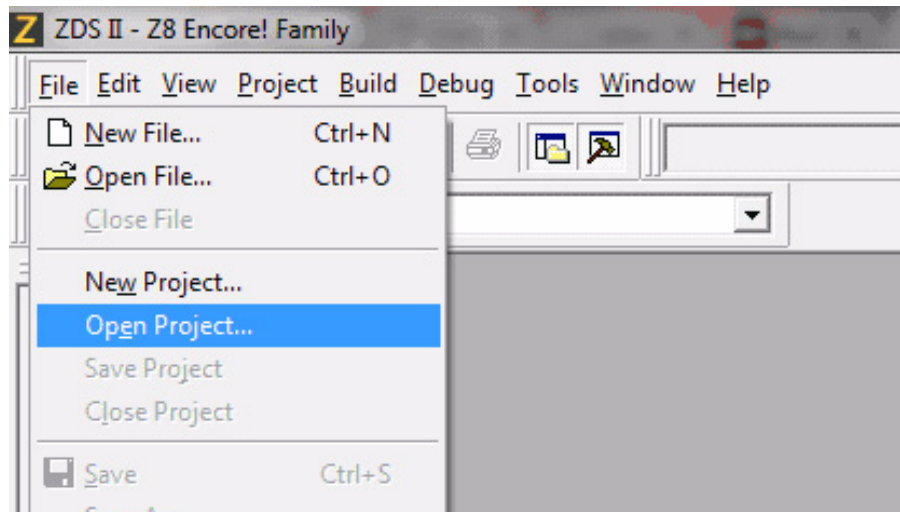

Figure 6. Open Project from the ZDSII File Menu
2. From the File menu in ZDSII, select **Open Project** as shown in Figure 6, and navigate via the following filepath.